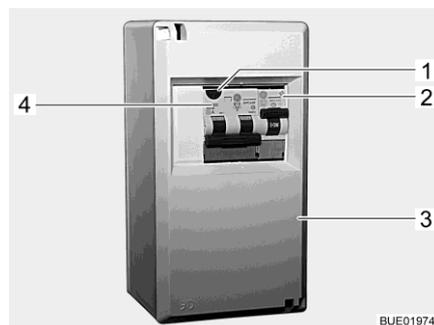
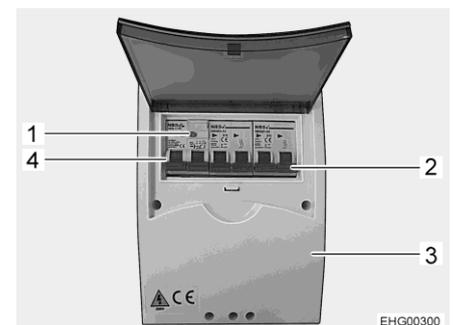

Fig. 191 230 V fuse box
Fig. 192 230 V fuse box (variant)
- Switch off the safety cut-outs (Fig. 191,2, Fig. 191,4 or Fig. 192,2, Fig. 192,4) in the fuse box (Fig. 191,3 or Fig. 192,3).
- When the vehicle is connected to the 230 V supply, press the test button (Fig. 191,1 or Fig. 192,1) of the combined fault current protection switch /safety cut-out (Fig. 191,4 or Fig. 192,4) in the fuse box (Fig. 191,3). The fault current protection switch must trip.